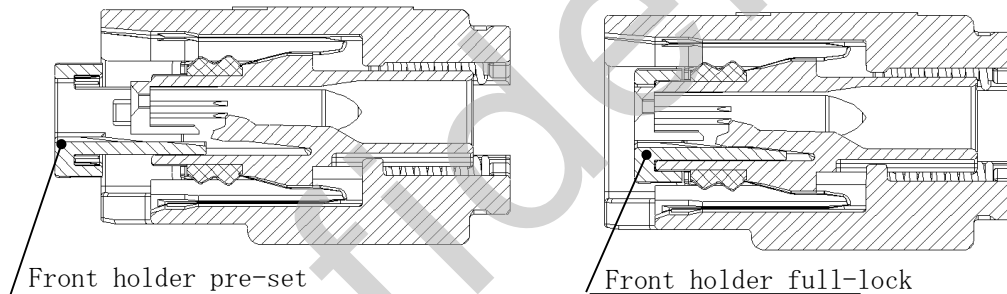

Figure-1
- 1) Confirm that a front holder is in pre-set position as shown in Figure-1 before terminal insertion.
- 1) Insert a front holder in the direction of arrow ① to full lock after terminal insertion.
- 2) Confirm that the front holder is full locked. (See Figure-1 on Page 9)